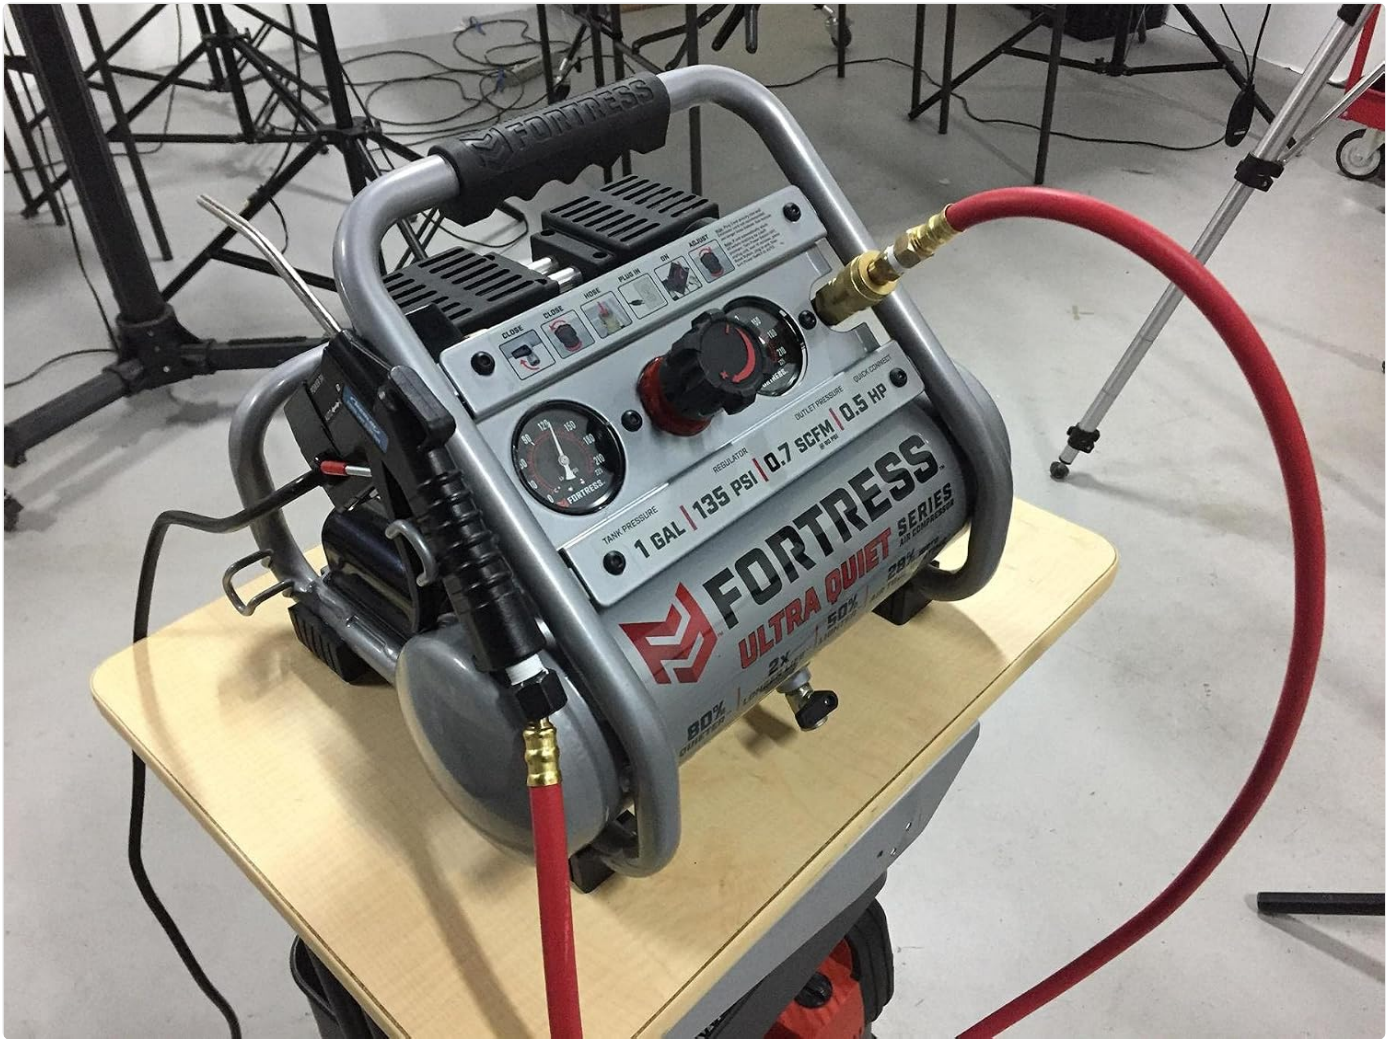

Figure 1: Front view of the HFT 1 Gallon Air Compressor, highlighting its control panel and gauges.
- **Tank Pressure Gauge:** Displays the current air pressure inside the 1-gallon tank. (Labeled "TANK PRESSURE" in Figure 1)
- **Regulator:** A red knob used to adjust the output air pressure to suit the connected air tool. (Labeled "REGULATOR" in Figure 1)
- **Outlet Pressure Gauge:** Shows the regulated air pressure being delivered to the air tool. (Labeled "OUTLET PRESSURE" in Figure 1)
- **Quick Connect Coupler:** Provides a fast and easy connection point for air hoses and tools. (Labeled "QUICK CONNECT" in Figure 1)